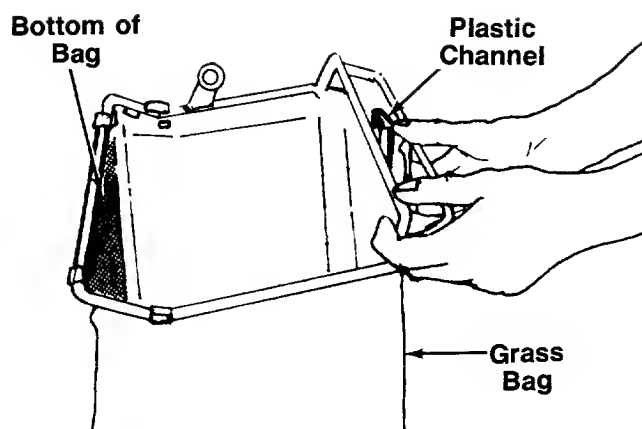

FIGURE 13.
4. Secure bag to frame by slipping plastic channels on bag over frame. See figure 13.